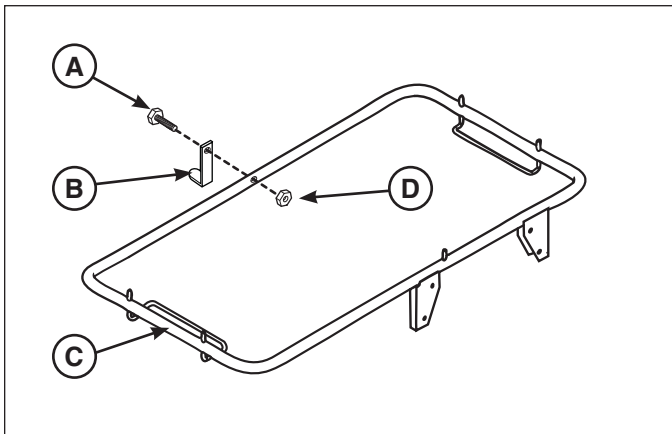

Figure 4
1. Insert the #10 machine screw (A, Figure 4) through the hole of the catcher latch (B) and the grass catcher frame (C). Secure with the #10 lock nut (D).